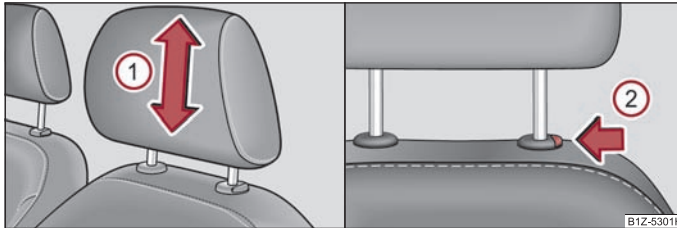

Fig. 48 Adjusting head restraint/pulling out
- Grasp the side of the head restraint with both hands and push the head restraint up or down in direction of arrow ① ⇒ fig. 48.
- Move the head restraint downwards if required by pressing the locking button with one hand in direction of arrow ② and by pressing with the other hand the head restraint downwards.
- Press the locking button in the direction of arrow ② ⇒ fig. 48 and pull the head restraint out.